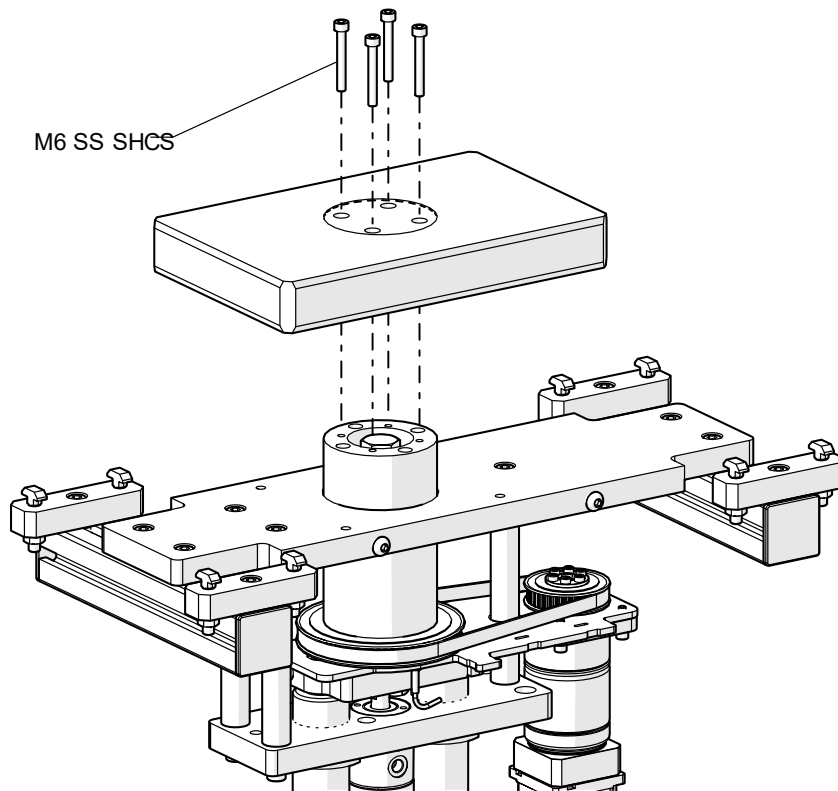

Figure 10: Removing Top Plate
Step 1: Remove the M6 SHCS holding the lift plate together shown in Figure 10. This will allow the lift plate to be removed.